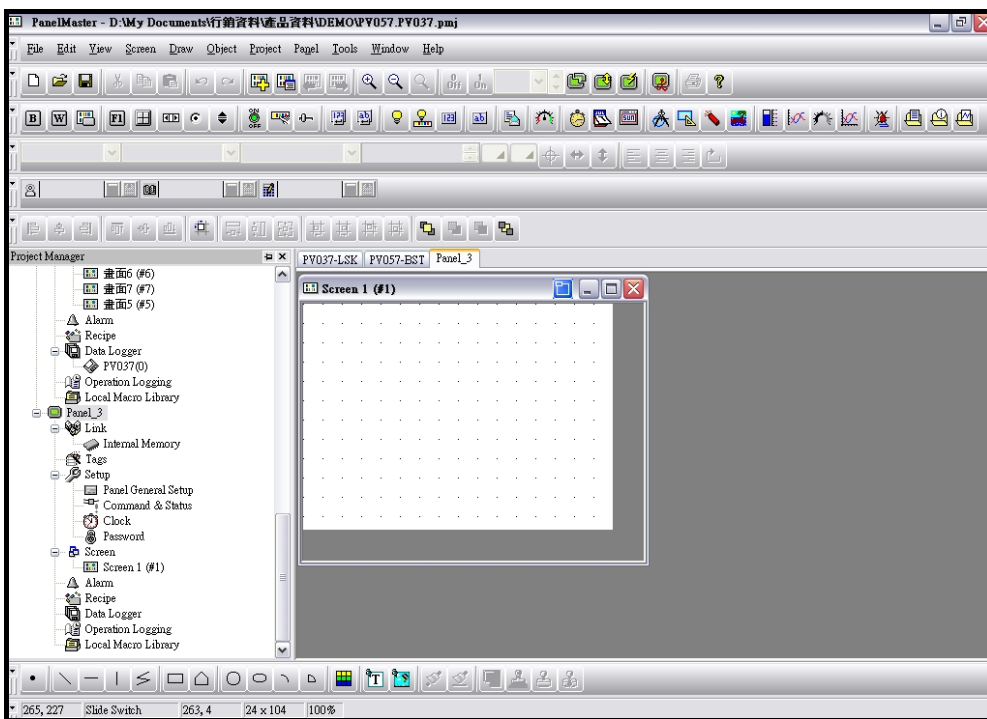

Figure 2-95 New project\_step 4\_ setting completed
**Step 4 :** Click **【finish】** to complete a project setting. The PanelMaster will open a blank screen of the specified panel (GD057-TST) as shown in figure 2-95.